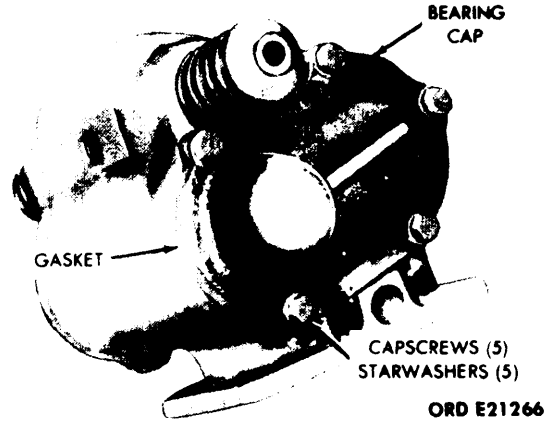

Figure 5-7. Removal of Output and Reverse Shaft Rear Bearing Cap.
(1) Remove the five capscrews and star washers securing the rear bearing cap to the power takeoff case. (See fig. 5-7.) Remove the rear bearing cap and cap gasket. Discard the gasket.
- h. Output and reverse shaft rear bearing cap. (See fig. 5-7.)